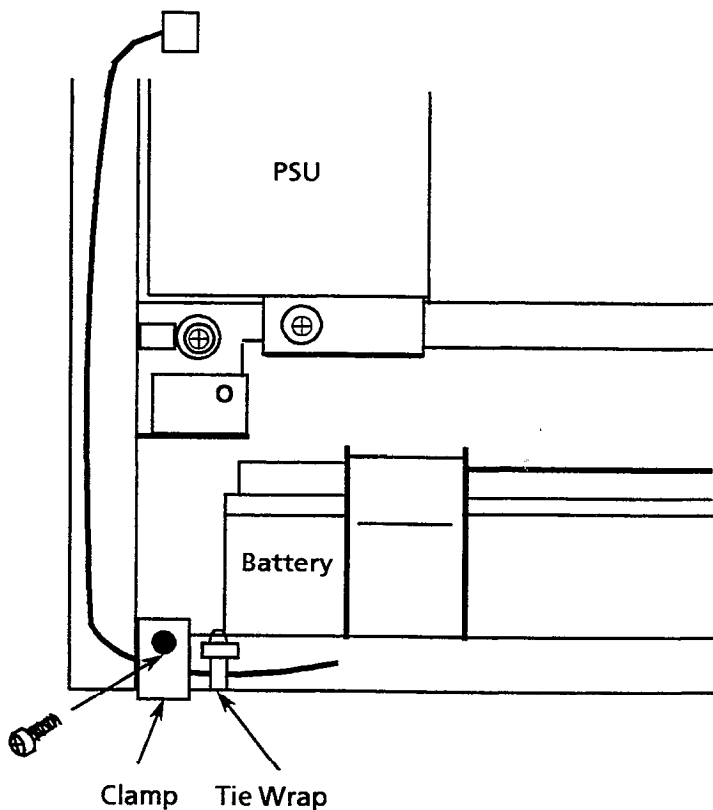

Figure 3-31 Attaching the PSU Cable to the KSU
3. Using the provided clamp and screw, attach the PSU cable to the KSU as shown in the following diagram. Refer to Figure 3-31 - Attaching the PSU Cable to the KSU.